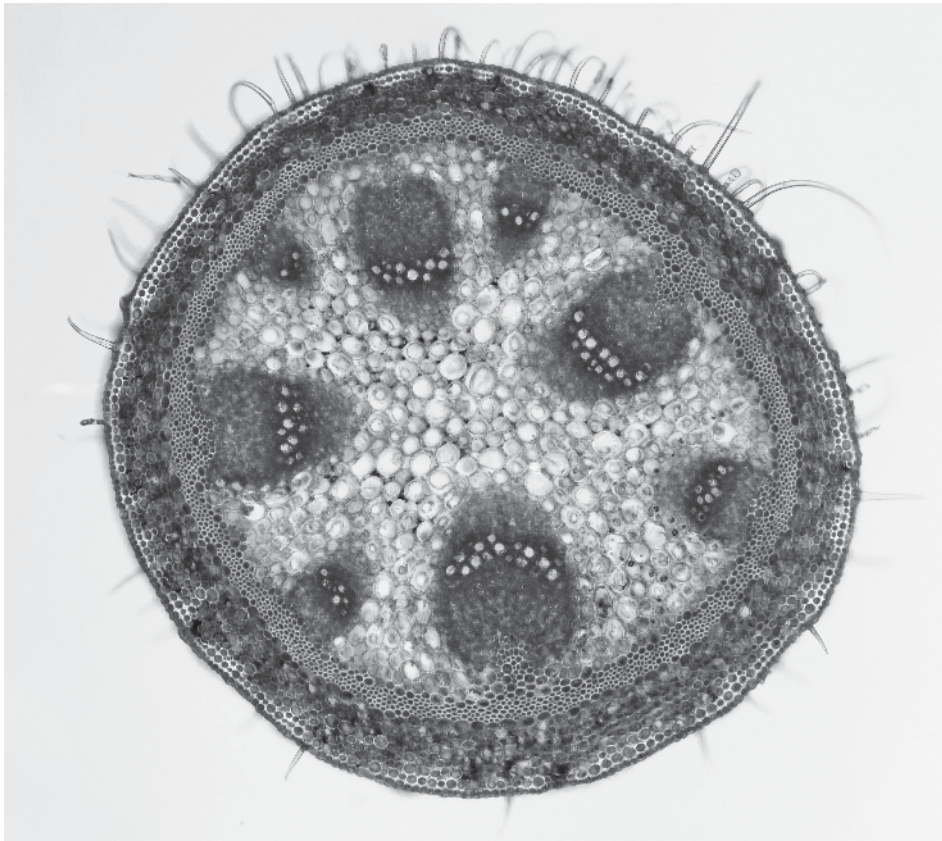
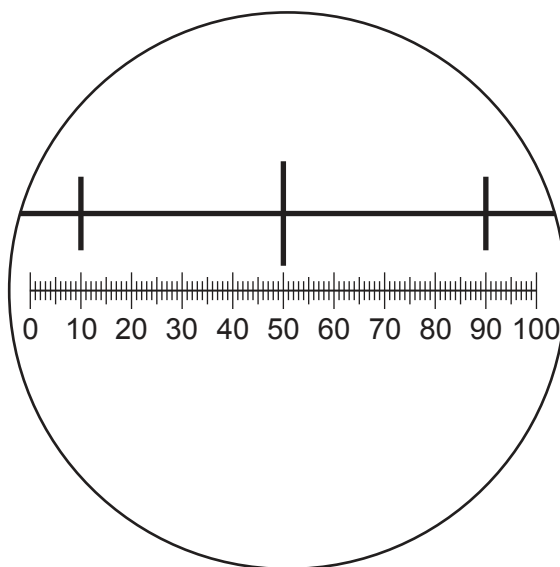
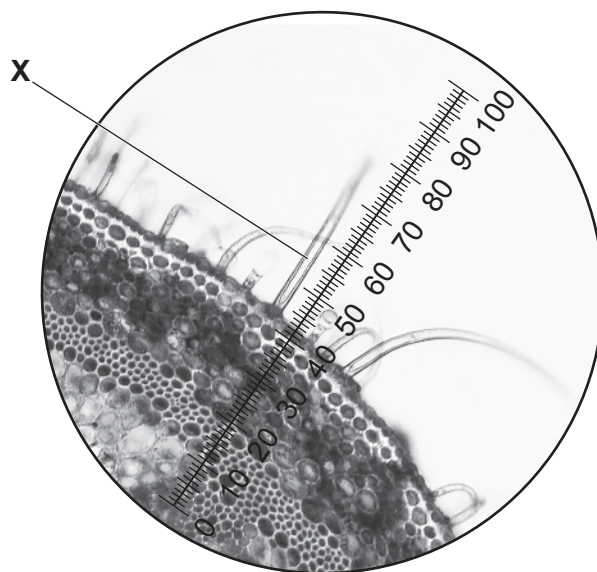

Fig. 2.2
Fig. 2.3
Fig. 2.4
- (b) Fig. 2.2 is a photomicrograph of a stained transverse section of a stem from a different plant species to the stem on N1.
Identify **three** observable **differences**, other than colour, between the stem in **N1** and the stem in Fig. 2.2.
- (c) Fig. 2.3 shows a photomicrograph of a stage micrometer scale that is being used to calibrate an eyepiece graticule.
The length of one division on the stage micrometer in Fig. 2.3 is 0.50 mm.
- (i) Calculate the actual length of one eyepiece graticule unit shown in Fig. 2.3.
Fig. 2.4 shows a magnified section of the stem shown in Fig. 2.2. This was taken with the same microscope and the same lenses used to take the photomicrograph in Fig. 2.3.
- (ii) Use the calibration of the eyepiece graticule unit from (c)(i) to calculate the actual length of the trichome labelled **X** in Fig. 2.4.